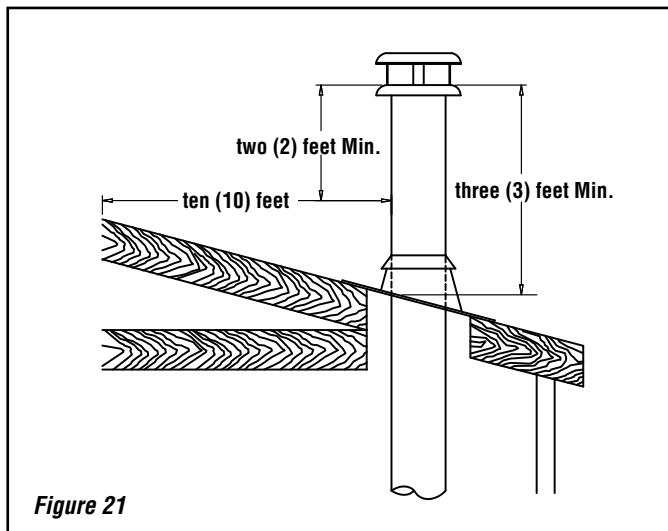

Figure 21
7. The chimney must extend at least three (3) feet (915 mm) above its point of contact with the roof and at least two (2) feet (610 mm) higher than any wall, roof or building within ten (10) feet (3m) of it (**Figure 21**).
8. If the chimney extends higher than five (5) feet (1,500 mm) above its point of contact with the roof, it must be secured using a roof brace.